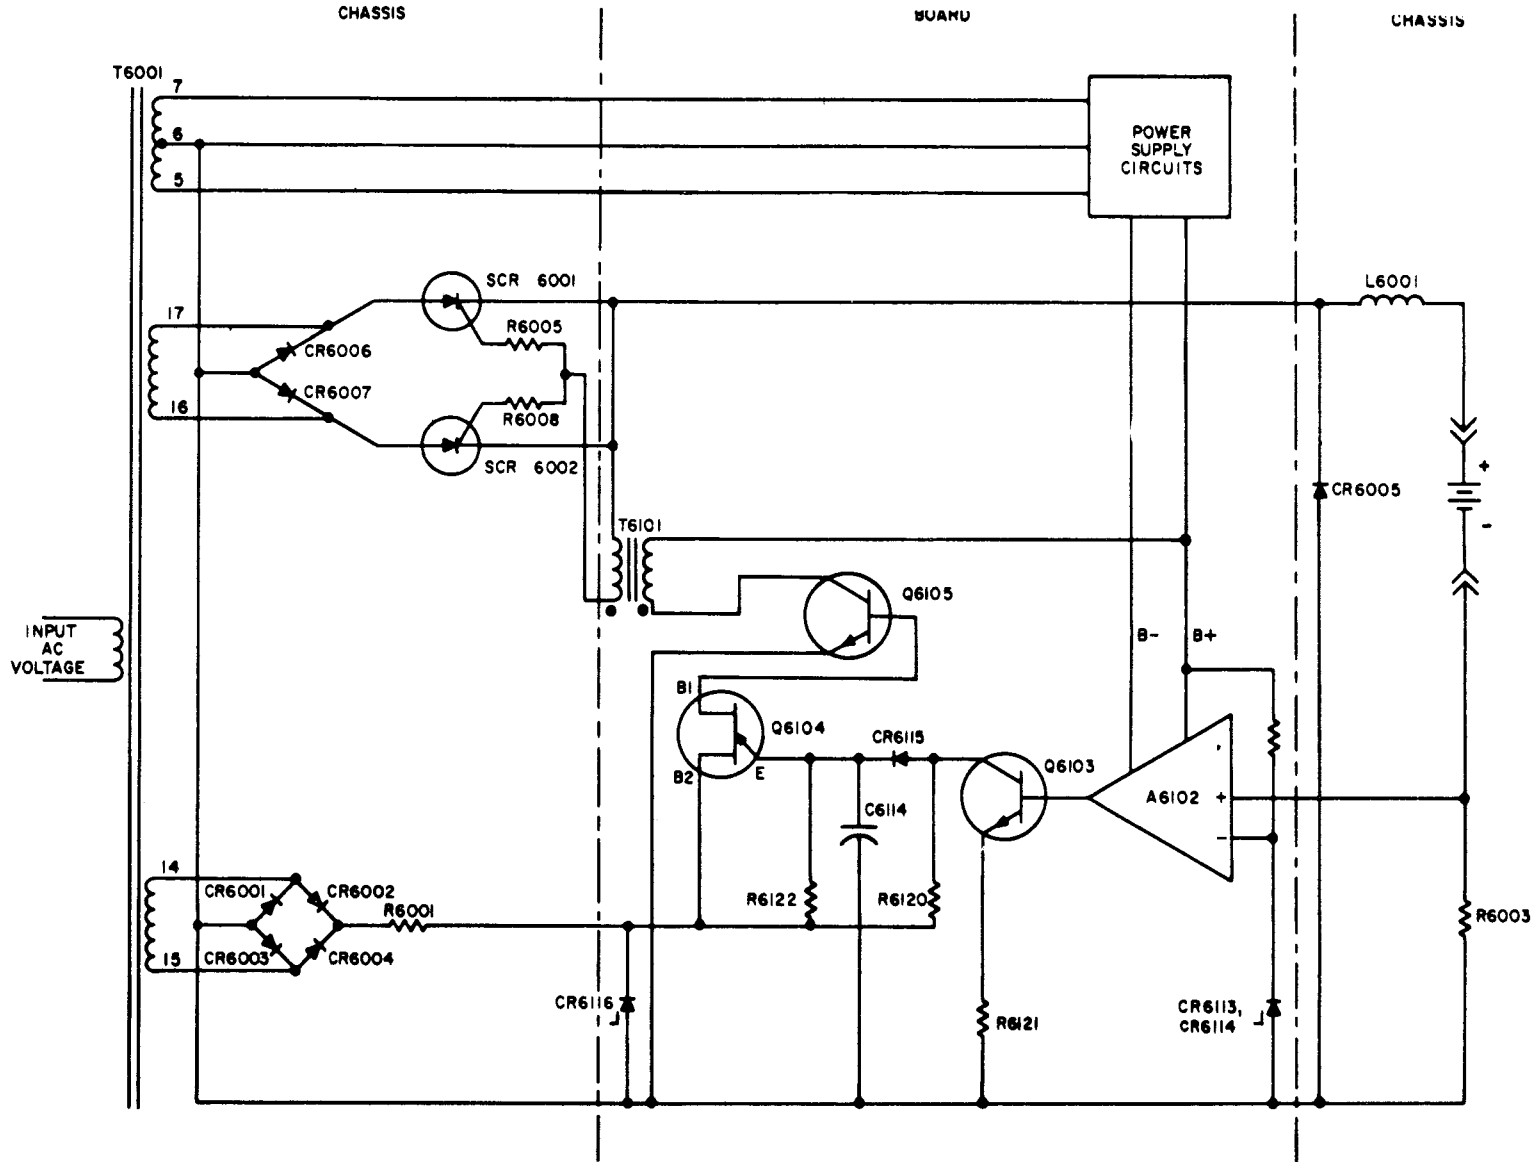
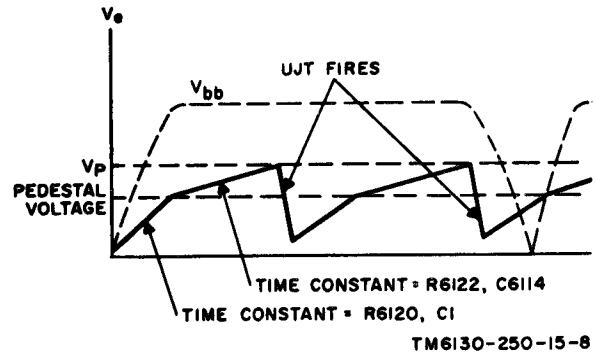

Figure 4-1. Basic ac phase-controlled current regulator, simplified schematic diagram.
Figure 4-4. Trigger circuit waveforms.
a. Figure 4-1 is a simplified schematic diagram of a basic ac phase-controlled current regulator. The voltage for the charging current to the battery is supplied by the bridge circuit, made up of CR6006, CR6007, and silicon-controlled rectifiers SCR6001 and
d. In the ac phase-controlled circuit (fig. 4-1), the clipped sine wave voltage is used as the supply voltage for the UJT multivibrator. The voltage across R6003 is proportional to the current flowing through the battery and is compared to a reference voltage and amplified in differential comparator A6102. The output of A6102 is coupled to capacitor C6114 in the multivibrator circuit through the collector of Q6103 and CR6115, so that the beginning of the charging cycle in the UJT emitter circuit is controlled by a pedestal voltage derived from the current flow in the battery-charging path.
e. Figure 4-4 shows waveforms in the trigger circuit. At the beginning of each cycle, the clipped sine wave rises to its maximum voltage, and C6114 is brought rapidly to the pedestal voltage by the collector circuit of Q6103 and CR6115 (fig. 4-1). Capacitor C6114 continues to charge toward the UJT base 1 to base 2 voltage ( $V_{bb}$ ), through R6122 and CR6115, until it reaches the emitter peak voltage ( $V_p$ ), and *whereupon* the UJT fires. The trigger is then coupled to the SCR gates through pulse transformer T6101, firing the SCR whose anode-to-cathode voltage is positive. Diode CR6129 (fig. 9-4)